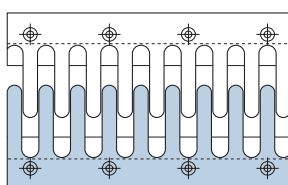
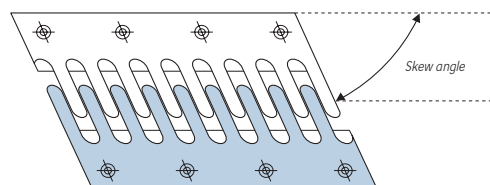

Fig.1
Fig.2
- WP joints are manufactured to order and can be adapted to the directional movement of the main structure, straight (fig.1) or skew (fig.2)